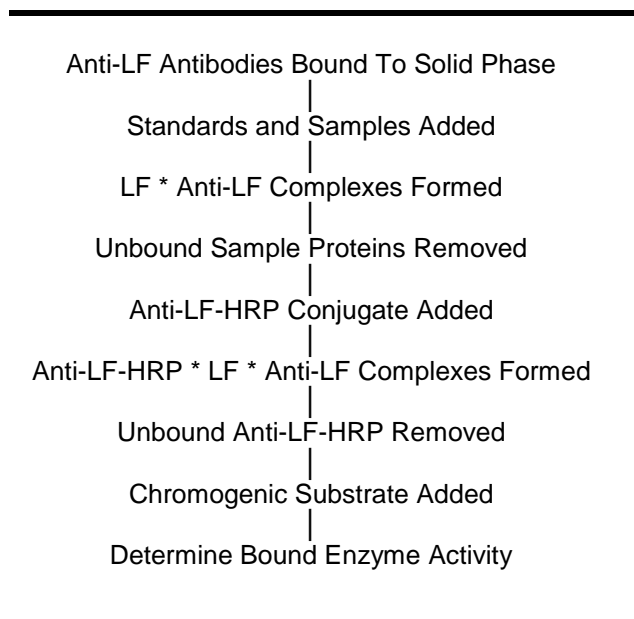

Figure 1
The principle of the double antibody sandwich ELISA is represented in Figure 1. In this assay the lactoferrin (LF) present in samples reacts with the anti-LF antibodies, which have been adsorbed to the surface of polystyrene microtitre wells. After the removal of unbound proteins by washing, anti-LF antibodies conjugated with horseradish peroxidase (HRP) are added. These enzyme-labeled antibodies form complexes with the previously bound LF. Following another washing step, the enzyme bound to the immunosorbent is assayed by the addition of a chromogenic substrate, 3,3',5,5'-tetramethylbenzidine (TMB). The quantity of bound enzyme varies directly with the concentration of LF in the sample tested; thus, the absorbance, at 450 nm, is a measure of the concentration of LF in the test sample. The quantity of LF in the test sample can be interpolated from the standard curve constructed from the standards, and corrected for sample dilution.